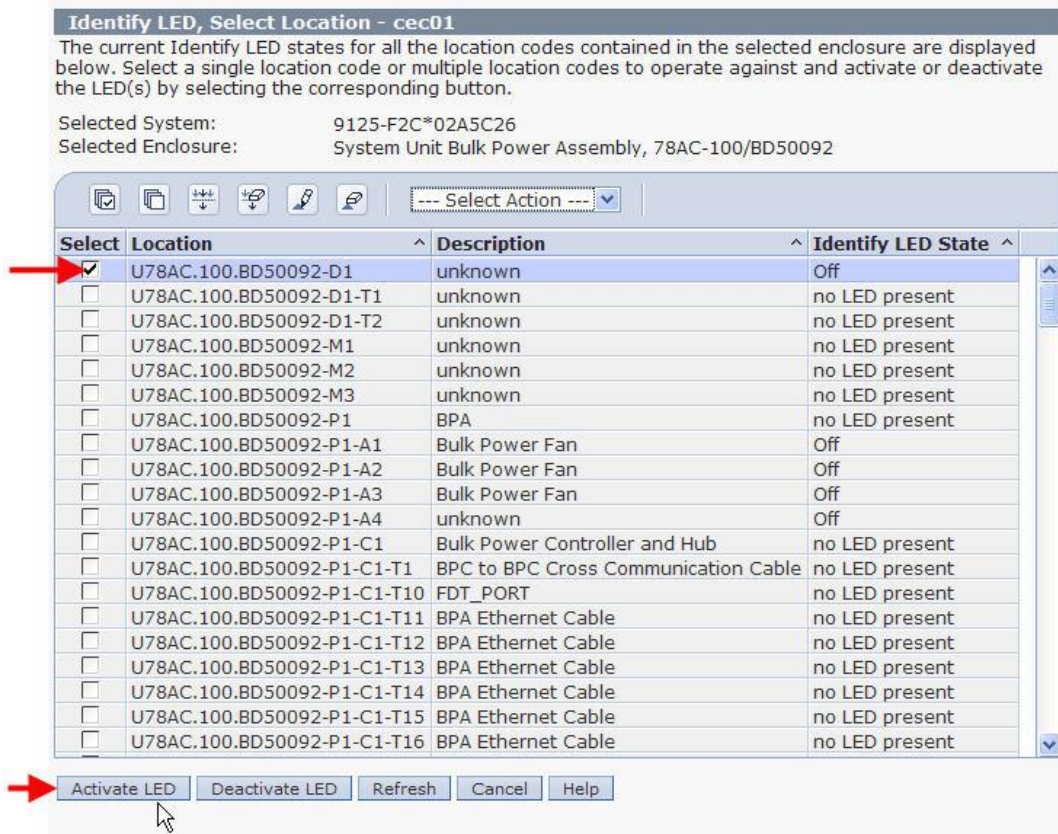

Figure 4 Identify LED, Select Location Window
STEP 6 In the window **Identify LED, Select Location**, place a checkmark in the Select column for **U78AC.100.[Serial#]-D1** and then *click* the **Activate LED** button (see Figure 4 Identify LED, Select Location Window)